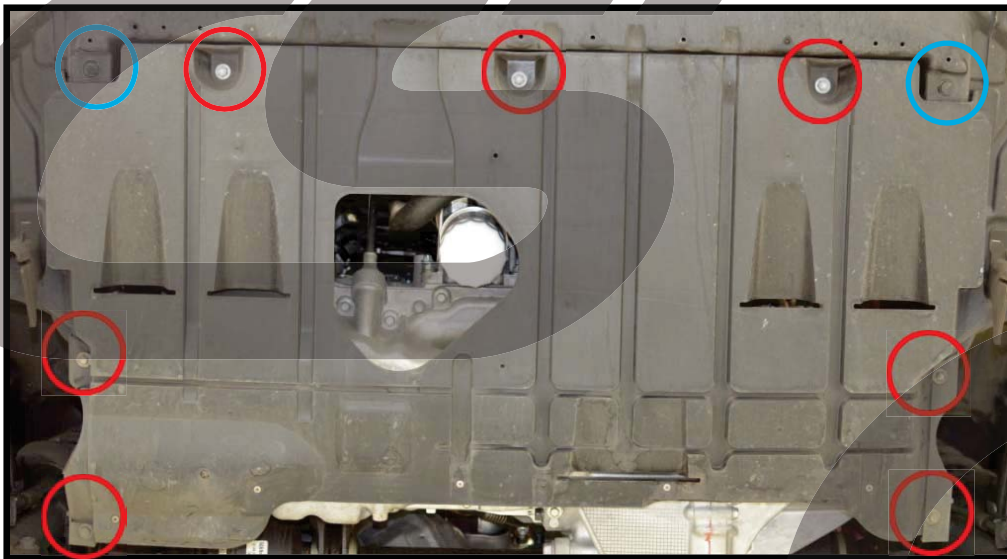

Figure 2a
- a) Remove the seven 10mm bolts holding the engine undertray shown with the red circles in Fig 2a, then remove the two push clips circled in blue.